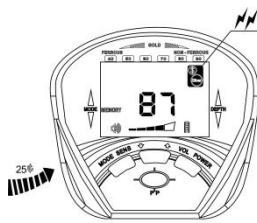

Fig.14
d) When sweeping the 50 ¢ silver coin, the detector responds, indicating that the detector has memorized the 50 ¢ silver coin. When sweeping the other five samples, the detector does not respond.(see Fig.14 , take the 25 ¢ silver coin as an example)